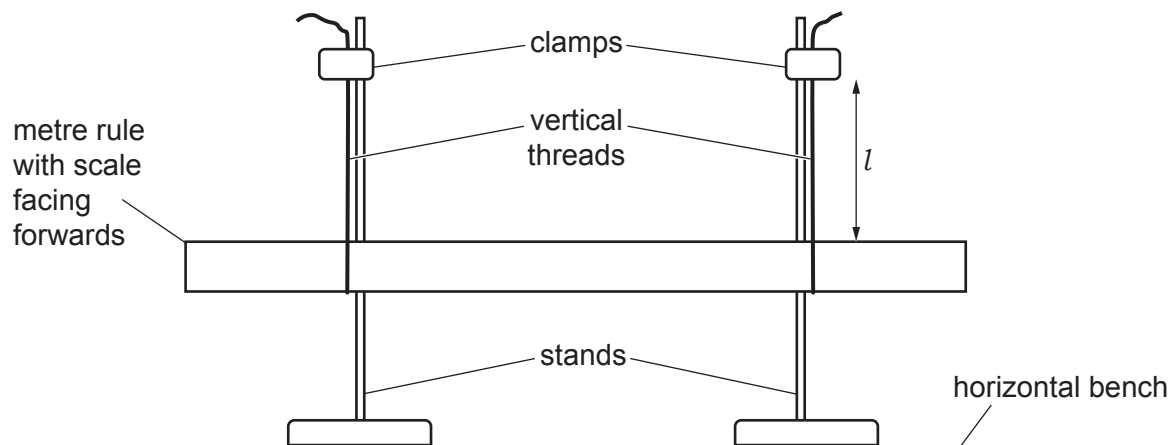
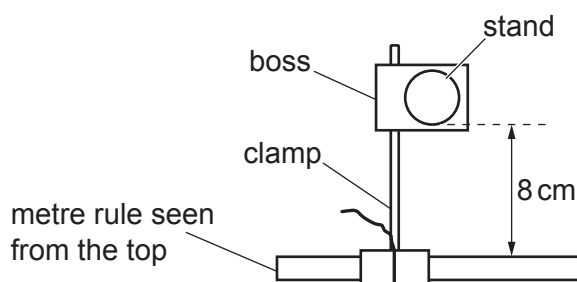

Fig. 1.2
Fig. 1.3
3. The apparatus must be set up for the candidates as shown in Fig. 1.2, with the metre rule suspended from the two threads, placed symmetrically about the 50 cm mark. The distance between the threads is not important. The threads must be vertical and the length l of the threads should be between 35 cm and 40 cm. Both threads must have the same length. The metre rule must be horizontal and there must be a horizontal distance between the metre rule and the stands of 8 cm as shown in Fig. 1.3.
- Check that the apparatus is arranged as shown in Fig. 1.2.